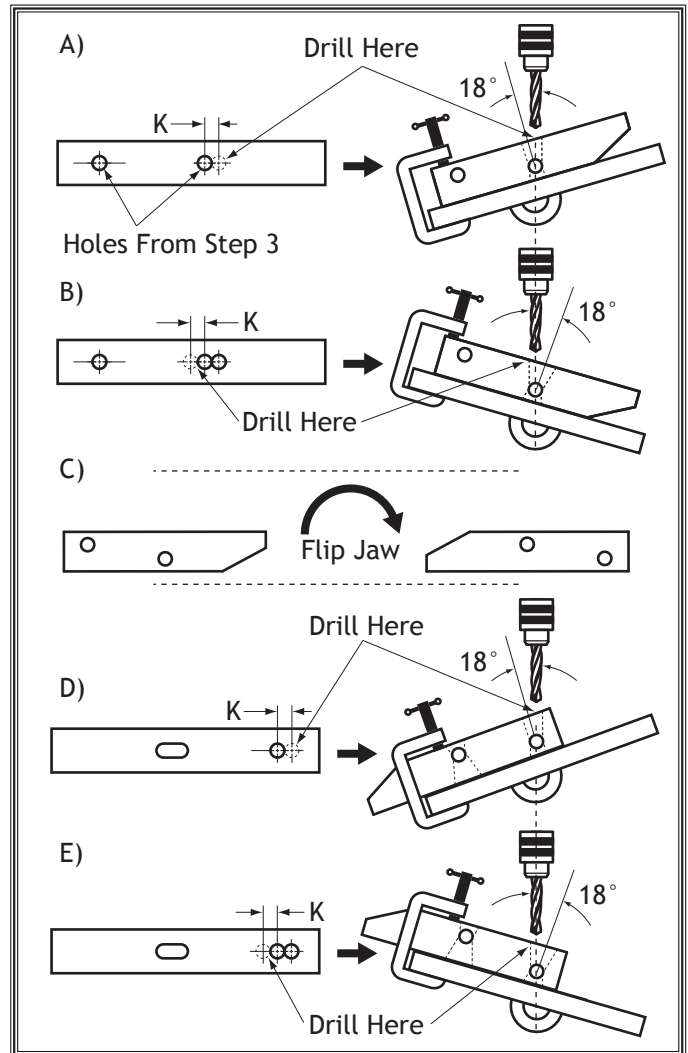

Figure 5. Elongating threaded rod holes.
4. If greater clamping flexibility is desired, drill additional holes at 18° & -18° in the positions shown in **Figure 5**. Make additional passes with the drill bit as needed to clear all remaining material from the elongated holes to prevent binding during use.